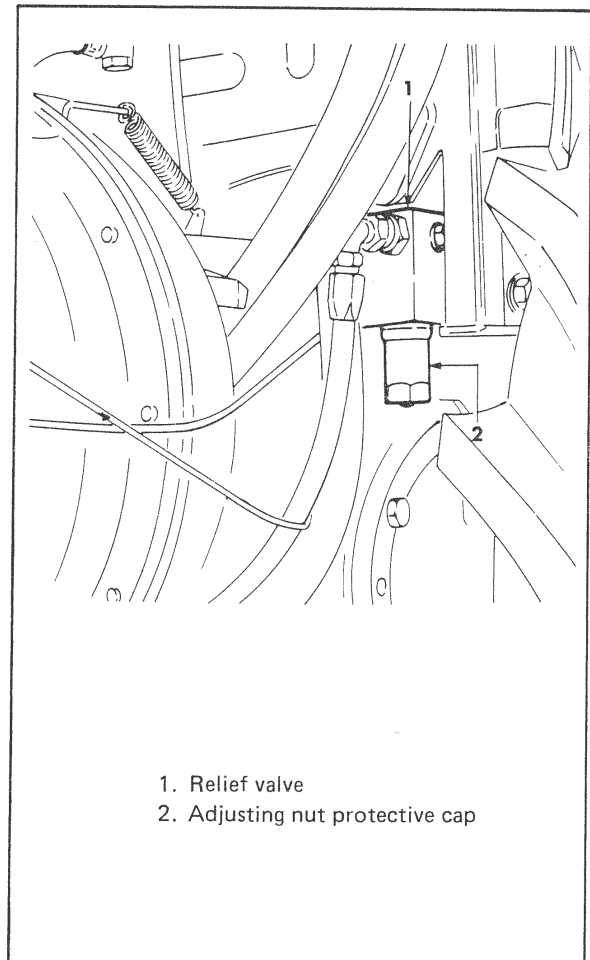

Figure 36. Setting of the hydraulic system relief valve
- If pressure is found to be lower, set properly the hydraulic system relief valve (see fig. 36) in screwing or screwing off adjusting nut with a screw-driver. Remove cap prior to taking action.